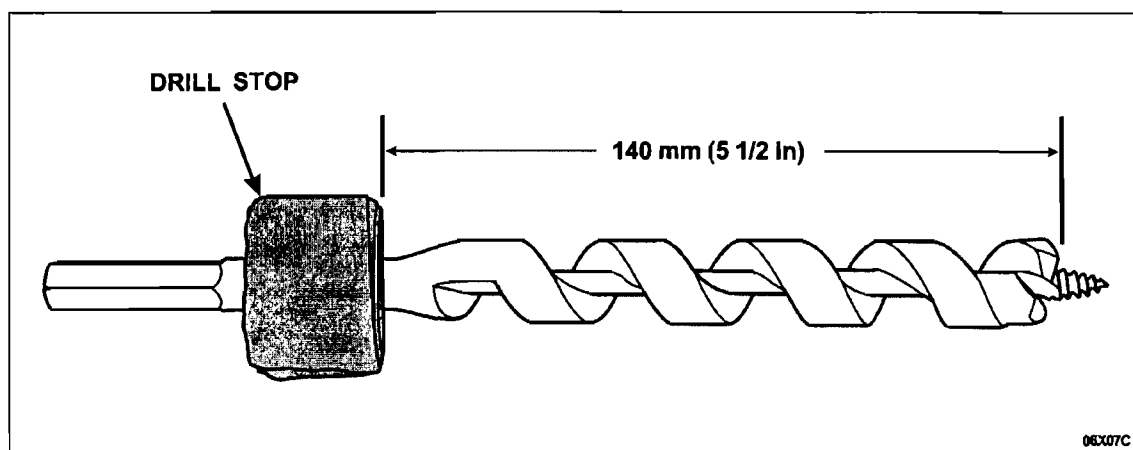

FIGURE 3
2. Install a drill stop or apply suitable tape onto the drill bit 140 mm (5 1/2 in) from the end of the cutting portion of the bit (not from the threaded tip). See Figure 3.